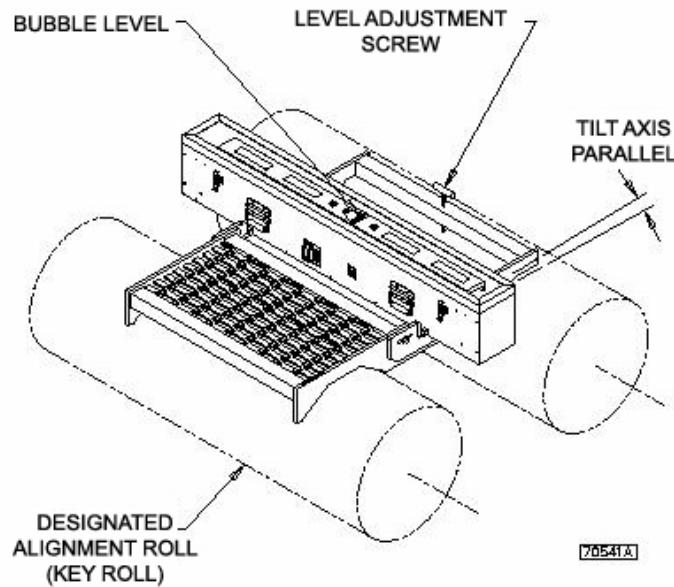

Figure 8.1 Calibrator Placement
- 1) Place the calibrator carrier on the roll table with the "V" notch registering on the key roll (Fig 8.1). The tilt adjustment screw should rest on the adjacent roller.